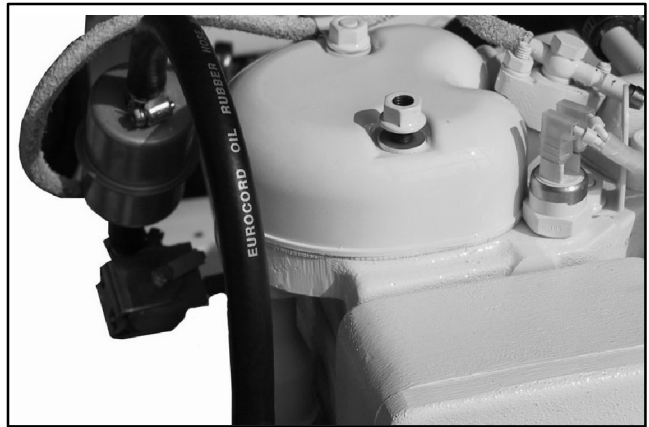

Figure 10-27 Rocker Cover
1. Remove the two rocker cover nuts, washer, cover and gasket. See Figure 10-27.